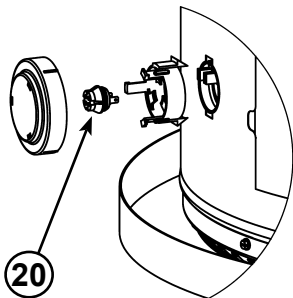

Figure 59
- 20 Flammable Vapor Sensor (under cover) (see Figure 5) (see also **Figure 59**)